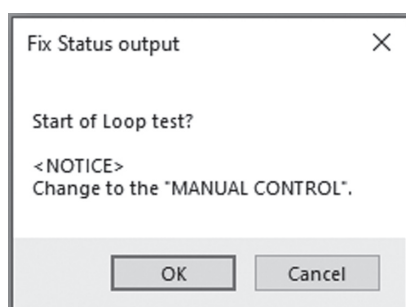

Fig.133
- ③ Click the "Start" button to display a message box (Fig. 133). Click the "OK" button to start "Fix Status output".